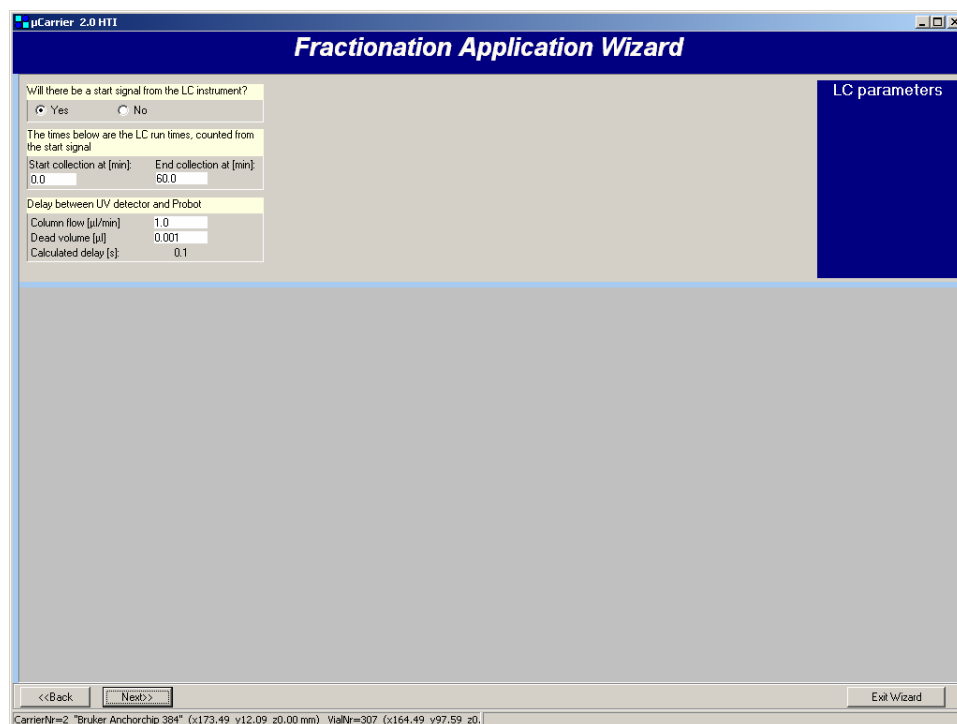

FIGURE 2-39 The Fractionation Application Wizard – LC Parameters
- h) In the next step the LC parameters are specified (FIGURE 2-39). This includes the start signal, the collection time (automatically calculated if you enter start and end time), the LC flow rate and the delay (dead volume) between the detector and the Probot needle. Enter the appropriate values and choose **Next**.